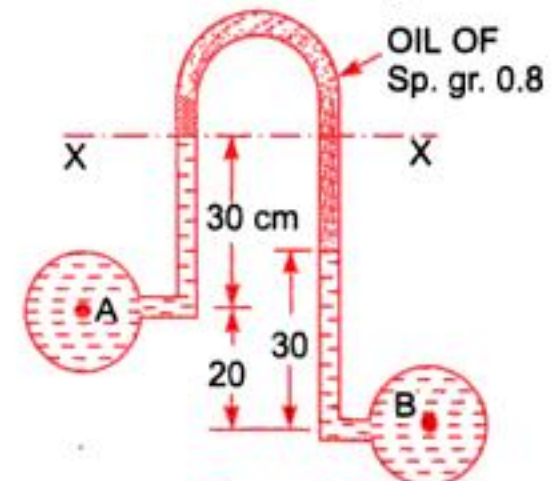

Fig. 2.23
**Problem 2.19** In Fig. 2.23, an inverted differential manometer is connected to two pipes A and B which convey water. The fluid in manometer is oil of sp. gr. 0.8. For the manometer readings shown in the figure, find the pressure difference between A and B.